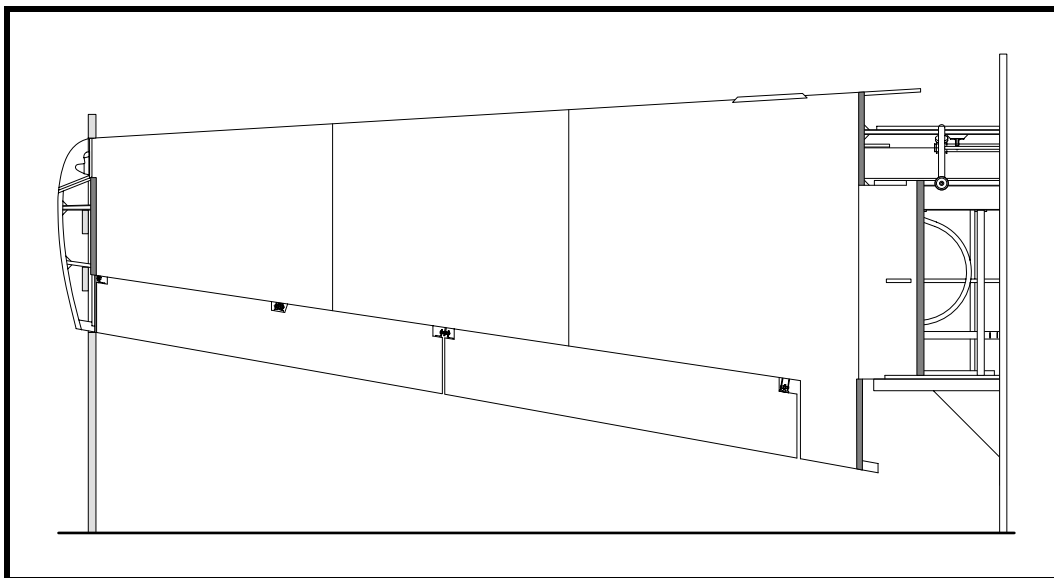

Figure 50
- ❑ Cut and fit the upper wing skin between wing Sta. 1 and the outboard seat support. See Figure 50. This skin must be soaked in water and clamped in place.
- ❑ Remove the outboard seat belt fittings and glue the upper wing skin in place as shown in Figure 50.